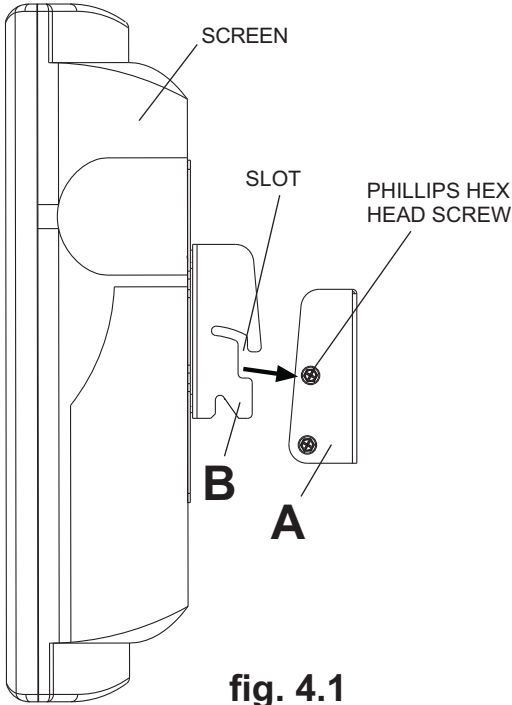

fig. 4.1
Position top slots of mounting plate (B) onto phillips hex head screws on wall plate (A) as shown in figure 4.1. Always use an assistant or mechanical lifting equipment to safely lift and position the flat panel screen.